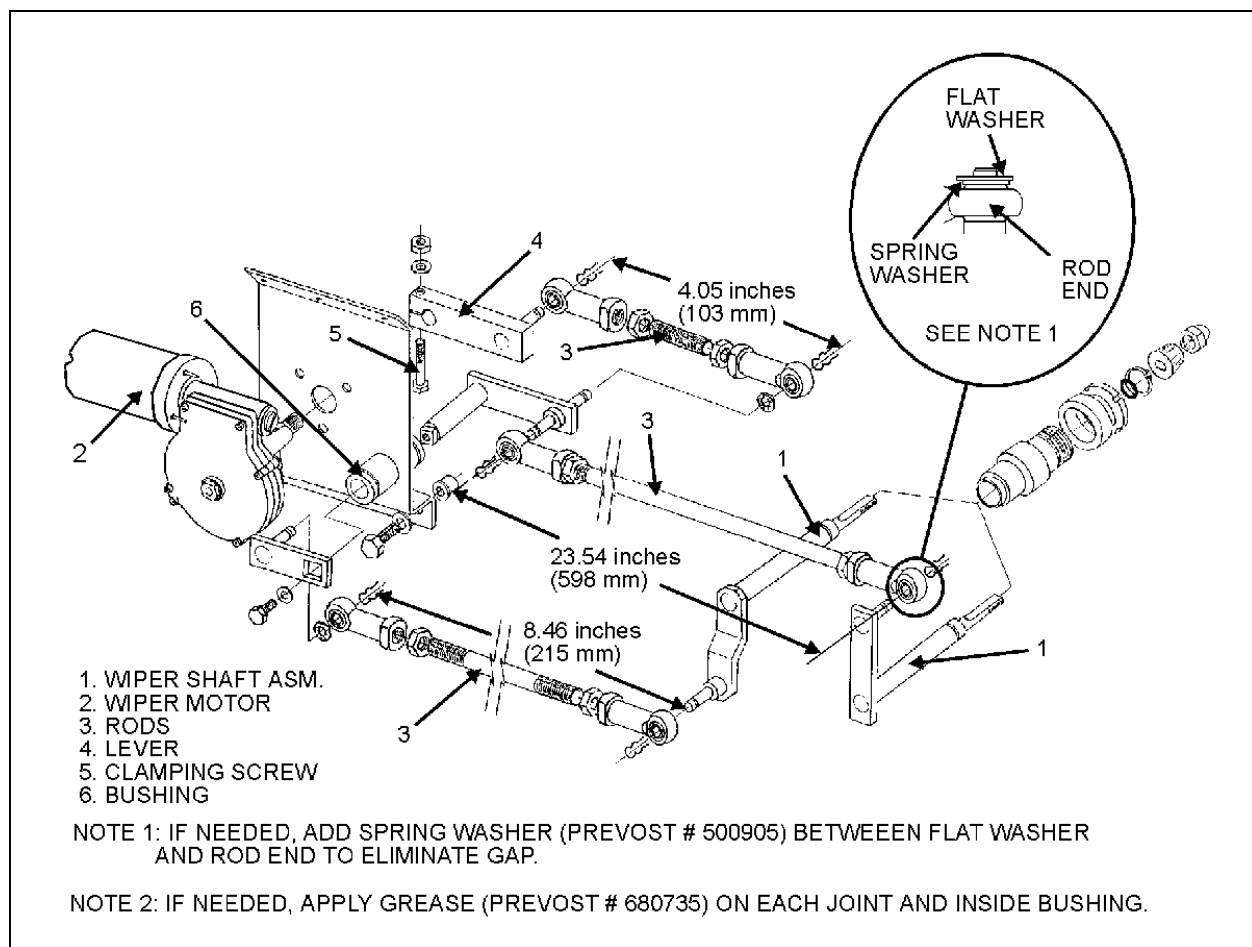

FIGURE 40: UPPER WINDSHIELD WIPER INSTALLATION
7. Loosen the bolt retaining the lever at the end of the motor driving shaft (Figure 40).